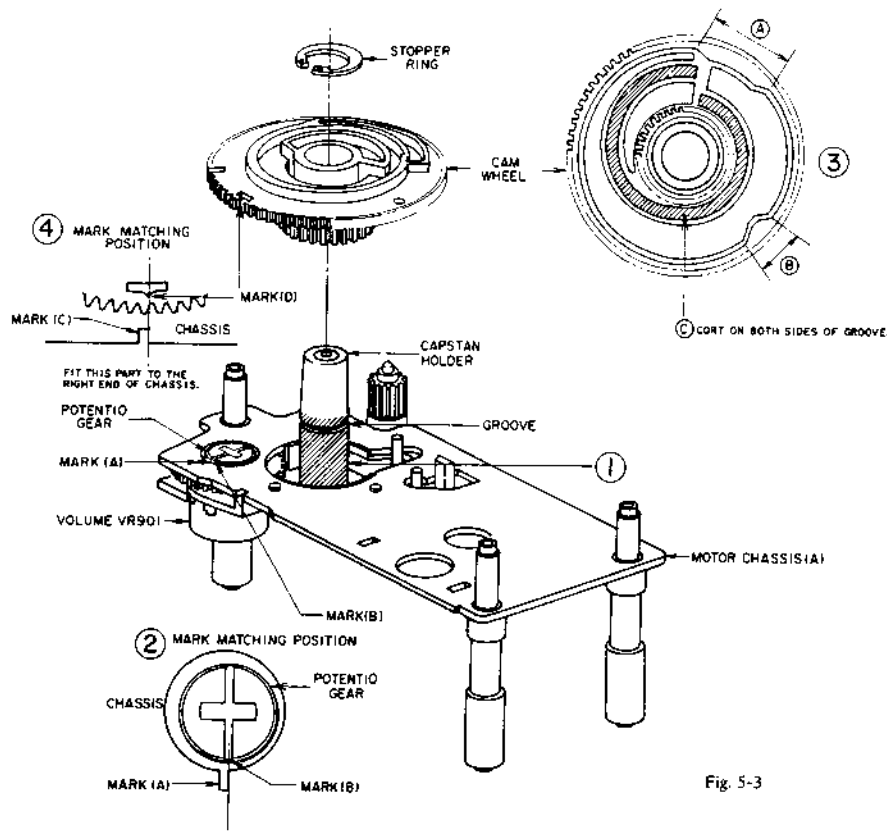

Fig. 5-3
Apply Molybdenum coat on the area of 360° from the bottom to the upside 2mm of groove as shown in the figure. (Fig. 5-3-①)
Fit the right end of Mark (A) to the center of Mark (B) as shown in the figure. (Fig. 5-3-②)
- 3) Apply the Molybdenum coat on ④, ⑤ and ⑥ shown in Fig. 5-3-③.
When the cam wheel is set properly, fit the center of Mark (D) to the right end of Mark (C). (Fig. 5-3-④)